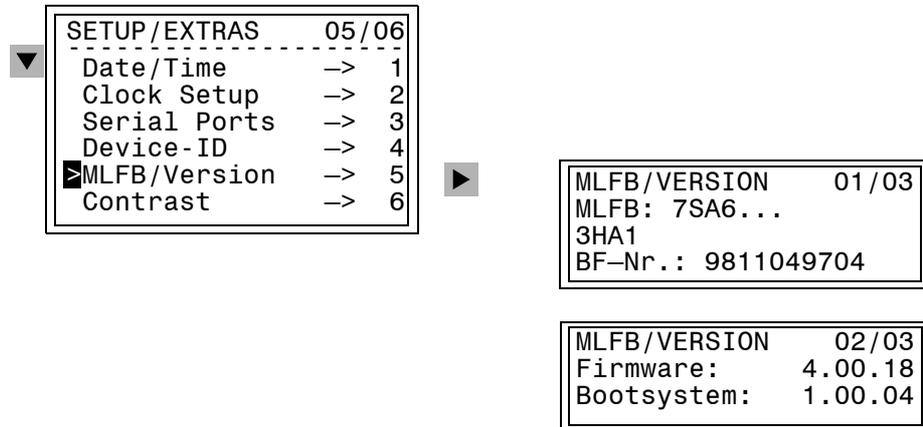

Figure 3-2 Display of device-specific data — example
- Using the ▼ key, select the menu item **Setup/Extras** and switch to the selection **SETUP/EXTRAS** using the ▶ key. See Figure 3-2.